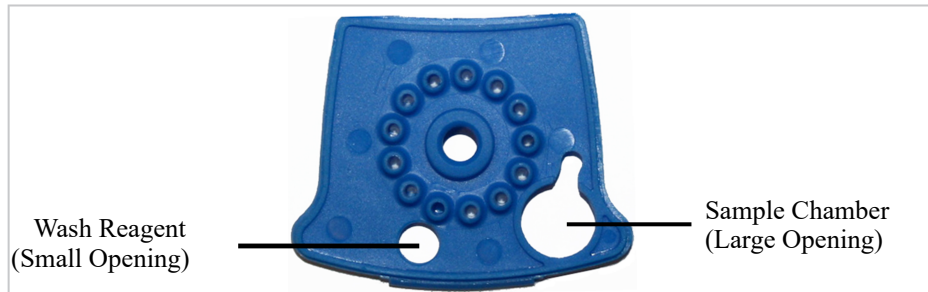

Figure 1 Xpert NPM1 Mutation Cartridge (Top View)
3. Open the cartridge by lifting the cartridge lid and transfer the entire contents of one (1) Wash Reagent ampoule to the Wash Reagent Chamber (with small opening). See Figure 1.
4. Pipette the entire contents of the prepared sample (4.5 mL) into the Sample Chamber (large opening). See Figure 1.